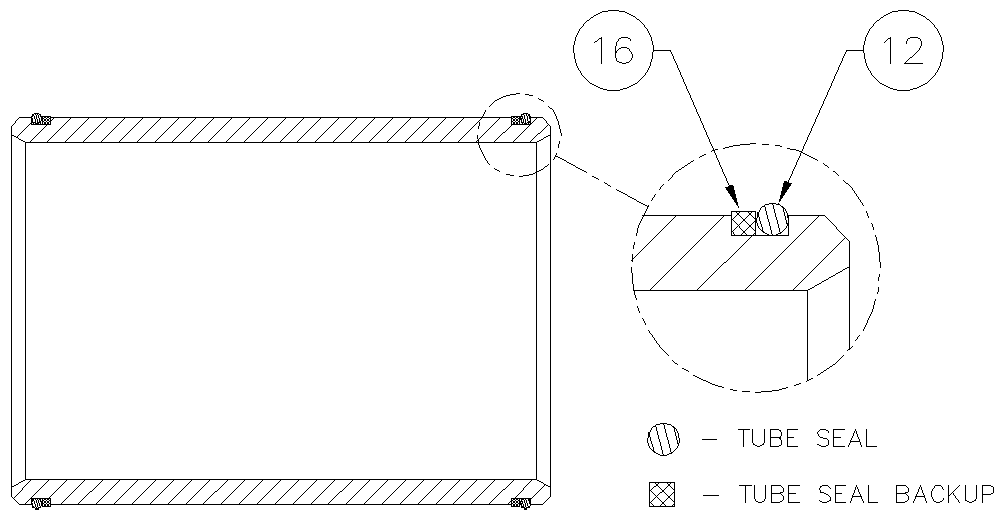
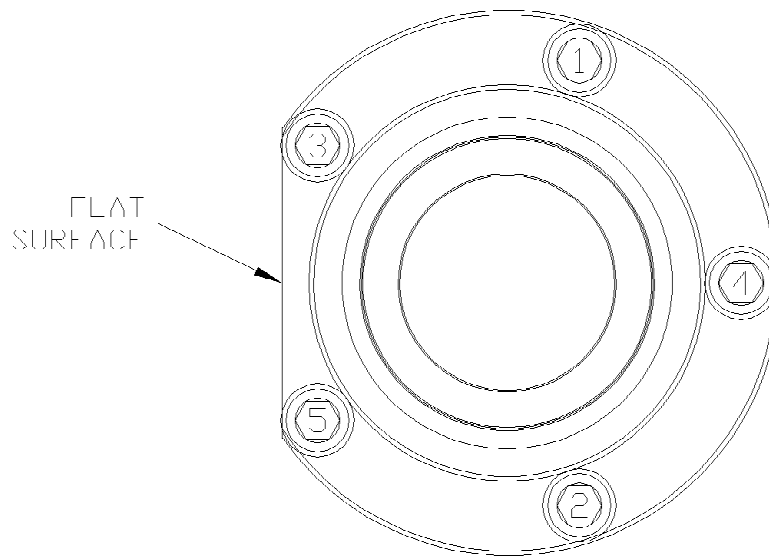
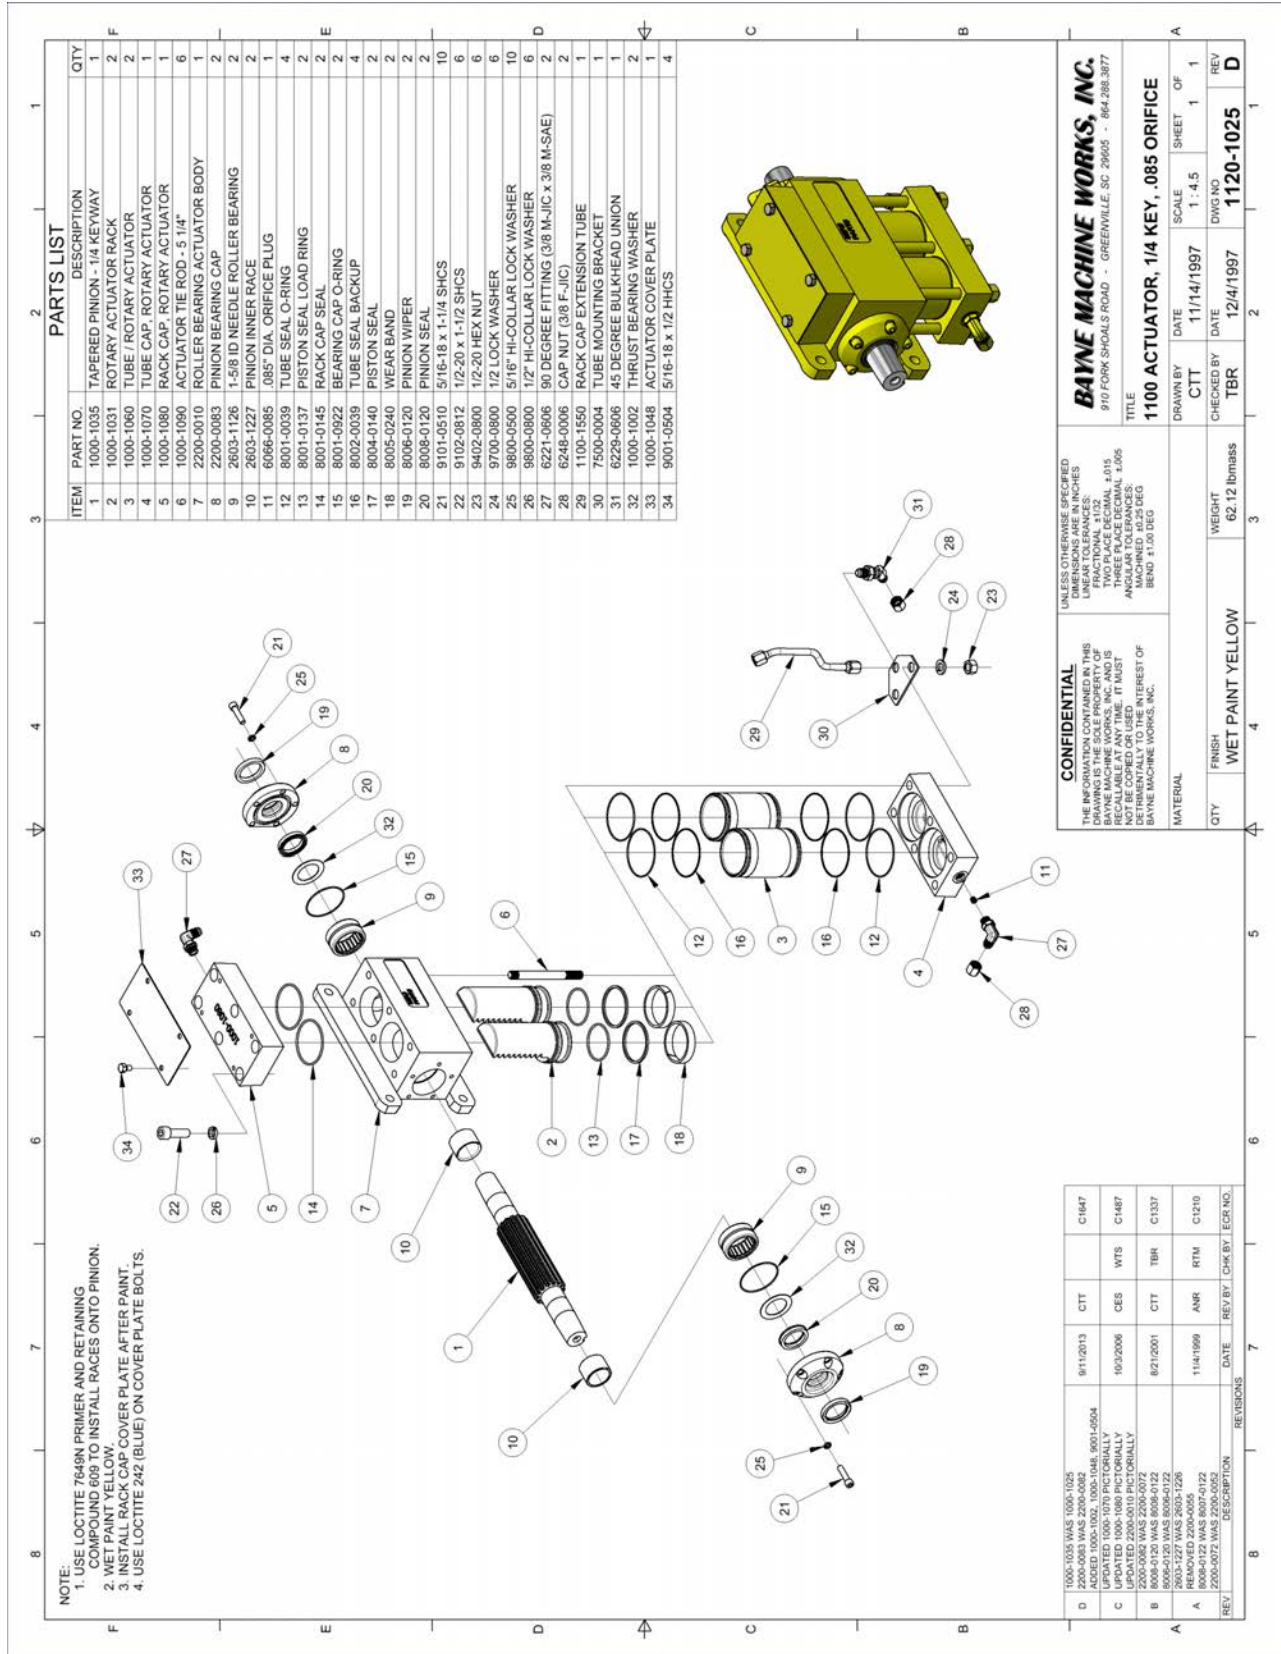

figure A-2
figure A-12
figure A-13
Before starting the assembly of the Rotary Actuator, refer to the exploded parts drawing and parts list (fig. A-13 found at the end of these instructions) to familiarize yourself with the individual components. Prepare a clean surface, in an area free of blowing dust and contaminants in which to assemble the Rotary Actuator. Be sure that all parts are thoroughly clean and dry before starting assembly.
2. Install the tube seal (12) (fig. A-2) and “square” tube seal backup (16) on each end of the actuator tubes (3) (fig. A-13). Be sure that the “square” tube seal backup ring is toward the inside of the tubes at both ends as shown. Press all rings firmly into the grooves. Repeat this procedure for the other tube.
- Coat the head portion of the racks (2) (fig. A-13) with STP Oil Treatment. Install the racks, head portion up with the teeth facing the flanges of the actuator body, into the dual set of bores in the body. Simultaneously slide the racks into the bores so that the racks mesh with the pinion in the same position. Rotate the pinion shaft to engage the racks into the pinion.
7. Coat one end of the actuator tubes (3) (fig. A-13) around the seal area with STP Oil Treatment as shown in figure A-7. Using a rubber mallet, drive the coated end of the tube onto the exposed rack until the tube end seats in the actuator body, making sure that the seals remain in place as the tube enters the counter-bore. Repeat this procedure for the other side.
8. Install the six tie rod studs (6) (fig. A-13) by screwing the short threaded end into the actuator body. Hand tighten only at this time (the torque needed will be applied later in the procedure).
9. Place the tube cap (4) (fig. A-13) on the table. Coat the sides of the two bores in the tube cap with STP Oil Treatment. Install the cap over the tubes and rod studs with the oil port positioned to the left as shown in figure A-13. Using a rubber mallet, tap the tube cap over the tubes until the tubes seat in the cap, making sure that the seals remain in place.
10. Place the tube mounting bracket (30) (fig. A-13) over the two end rod studs opposite the oil port in the tube cap as shown in figure A-13.
11. Install the hex nuts (23) (fig. A-13) and lock washers (24) on the tie rod studs. Torque the nuts to 50 ft-lb. in the sequence shown in figure A-8.
12. Place the rack cap (5) (fig. A-13) bore side up on the table and coat the edge of each bore with STP Oil Treatment. Install the rack cap seals (14) (fig. A-9) in the rack cap.
13. Reposition the actuator on the table mounting flanges down, and the lower tubes facing away from the assembler. Rotate the pinion shaft to allow 1” of the rack to protrude from the top of the actuator body. Install the rack cap with the oil port positioned to the left hand side of the actuator opposite the bottom oil port located in the tube cap as shown in figure A-13. Attach the rack cap to the actuator body using the socket head bolts (22) (fig. A-13) and lock washers (26). Torque the bolts to 90 ft-lb. in the sequence shown in figure A-10.
15. Re-center the actuator pinion in the actuator body by tapping on one end of the shaft with a rubber mallet. Install the roller bearing (9) (fig. A-13), over the pinion shaft and inner race, and into the actuator body. Repeat this procedure for the other bearing.
18. Wrap masking tape or electrical tape around the pinion to cover the edges at the keyway. Slide the bearing cap assembly over the pinion shaft with the bearing cap seal facing toward the actuator body and the flat surface of the flange shown in figure A-12 facing toward the actuator mounting flanges. Press against the bearing cap until the shoulder seats against the actuator body, making sure that the seals remain in place. Install the bearing cap bolts (21) (fig. A-13) and lock washers (25). Hand tighten only at this time. Repeat this procedure for other bearing cap.
19. After both bearing caps have been installed, torque all bearing cap bolts to 30 ft-lb. in the sequence shown in figure A-12.
20. Install the 90° fitting (27) (fig. A-13) into the oil port on the side of the rack cap (5). Hand tighten only at this time.
21. Install the 45° bulk-head fitting (31) (fig. A-13) up through the hole in the tube mounting bracket (30) bolted to the tube cap as shown in figure A-13. The 45° end must be pointing down away from the rack cap (5) and back toward the mounting flanges on the actuator body. Hand tighten only at this time.
22. Install the rack cap extension tube assembly (29) (fig. A-13) between the 90° fitting in the rack cap and the 45° fitting in the tube mounting bracket as shown in figure A-13. Tighten all connections.
23. Install the orifice plug (11) (fig. A-13) into the oil port on the side of the tube cap (4), and install the 90° fitting (27) into the oil port over the orifice plug as shown in figure A-13. Turn the fitting so that it points down away from the rack cap (5) and back toward the mounting flanges on the actuator body and tighten.
24. Install the cap nuts (28) (fig. A-13) onto the open fittings to prevent contamination of the unit until the hoses are installed.
25. Install the actuator cover plate (33) (fig. A-13) onto the rack cap (5) using the cover plate bolts (34). Be sure to use *LOCTITE THREADLOCKER 242* on the cover plate bolts.